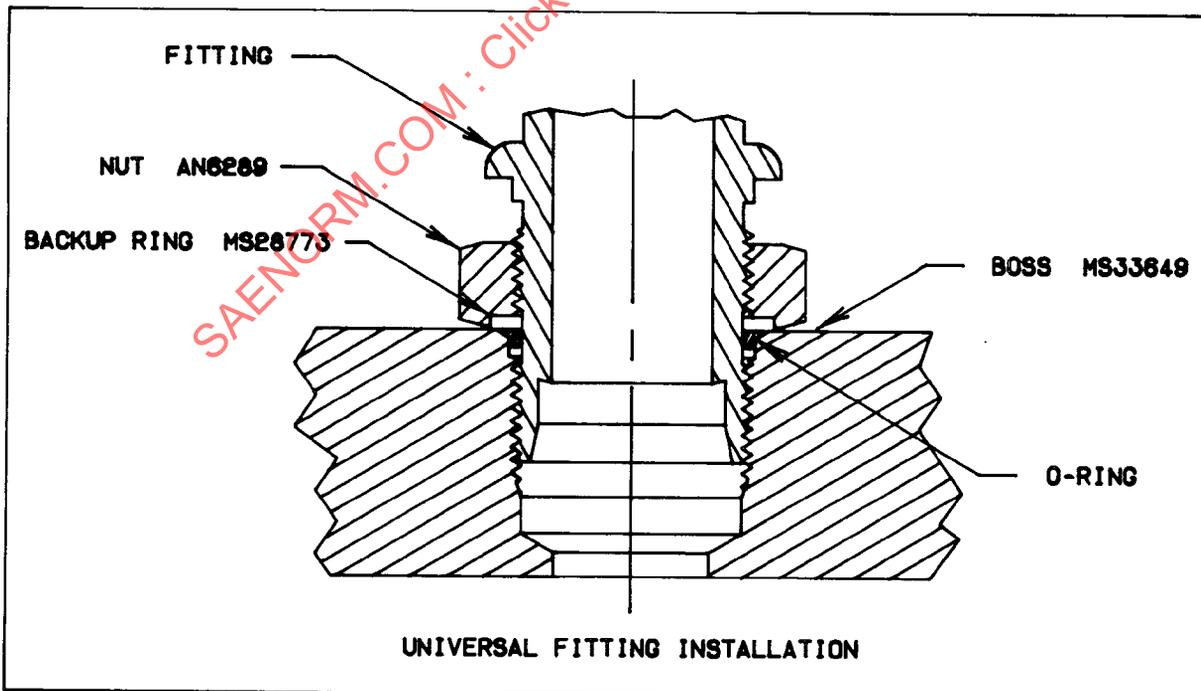

FIGURE 4
4.3.2 MS21344 and MS33566 Fitting Installation Standards Pertaining to Universal Fittings: Universal fittings are rarely used in new design. When used, MS21344 and MS33566 (Figure 4) are the design guide for MIL-H-5440 hydraulic systems. It is noted that MIL-H-5440F paragraph 3.11.10.1 states, "universal fittings shall not be used in hydraulic systems unless written approval is obtained from procuring activity."